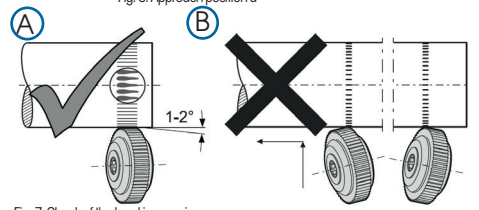

Fig. 7: Check of the knurl impression
With correct use, the knurl impression is approx. 1/3 of the width of the knurling wheel (Fig. 7, ref. A). Ensure that the front cut of the knurling wheel immerses in the material approx. 1°–2°. The maximum immersion depth should only be a few hundredths. If there is a knurl impression as shown in Figure 7, ref. B, a correction of the knurling wheels must be carried out (cf. chapter 3, ref. 2).